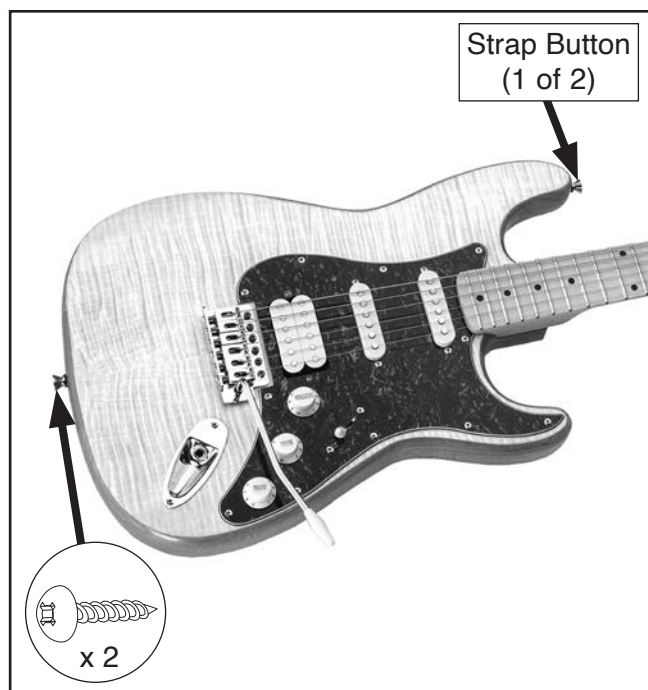

Figure 15. Strap button placement.
The strap buttons are positioned on the guitar, as shown in **Figure 15**.
1. Use a $\frac{3}{32}$ " drill bit to drill $\frac{1}{2}$ " deep holes at locations shown in **Figure 15**.
2. Use (2) Phillips head screws provided with strap buttons to secure each button to guitar body (see **Figure 15**).